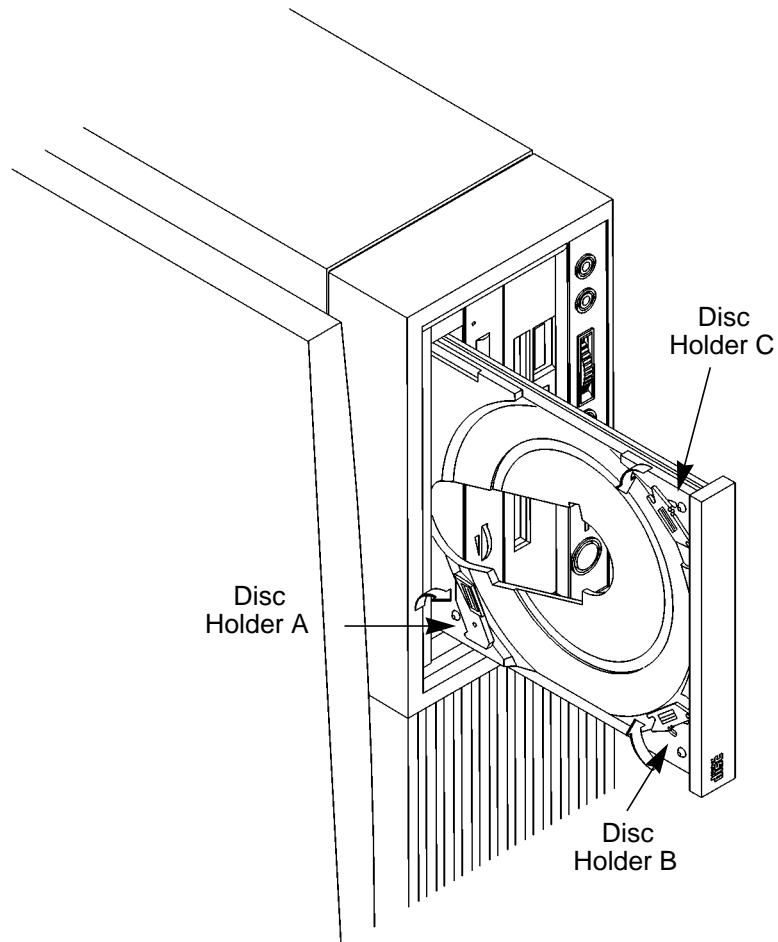

Figure 11 **Releasing the Disc Holder Retainers**
- 2 Wait until the drive has fully ejected the disc tray, then remove the disc from the tray as shown in Figure 11. Be careful to touch only the edges of the disc.
- 1 Make sure the three disc holders are disengaged from the disc holder retainers, as shown in Figure 11.